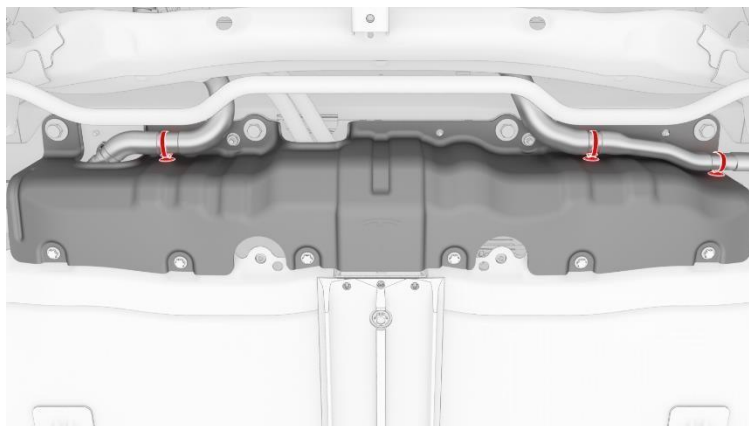

Figure 25 –Skid plate
2. Remove the rear skid plate (Figure 25) (refer to Service Manual procedure 16102202; Model 3, Model Y).